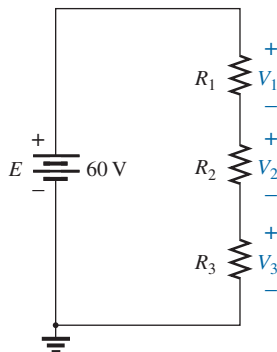

**FIG. 5.115**
32. Design the voltage divider in Fig. 5.115 such that  $V_{R_1} = 1/5V_{R_2}$ . That is, find  $R_1$  and  $R_2$ .